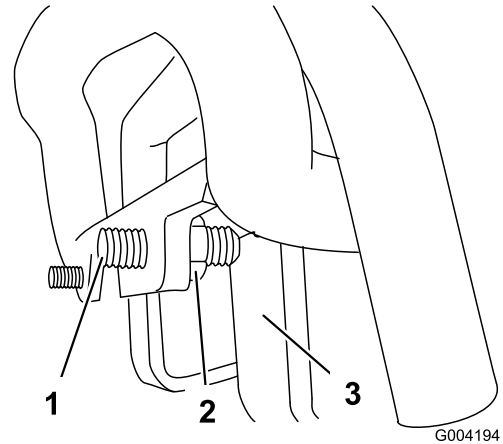

Figure 56
- 4. If the machine veers to the **right**, loosen the **left** jam nut and adjust the tracking set screw on the front of the traction control (Figure 56).
- 3. If the machine veers to the **left**, loosen the **right** jam nut and adjust the tracking set screw on the front of the traction control (Figure 56).